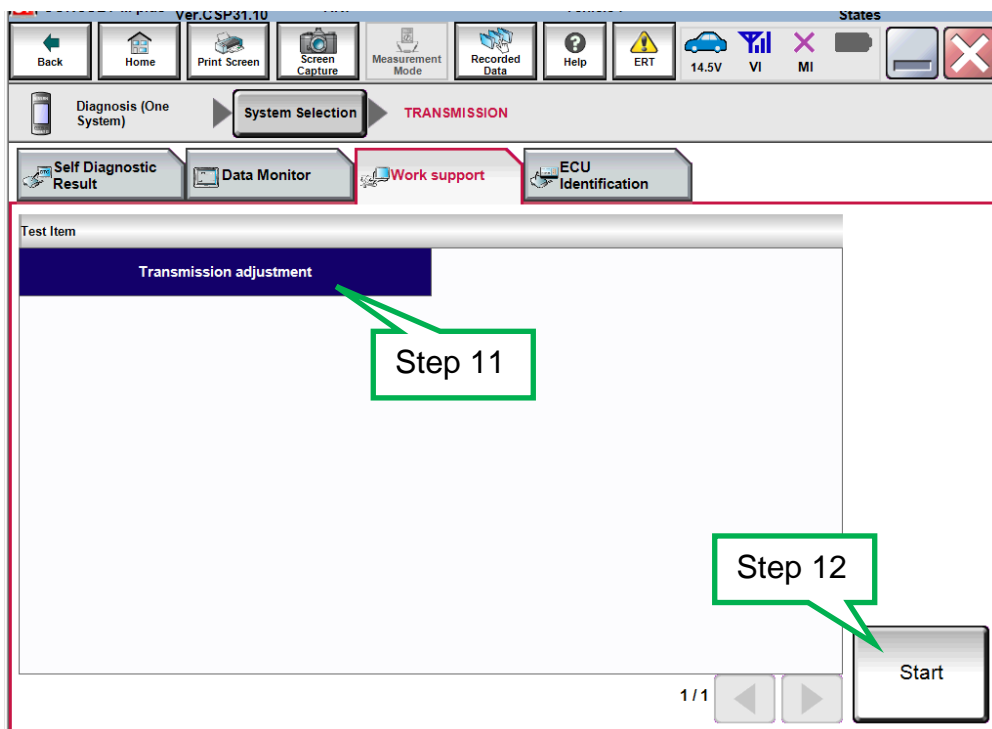

Figure 2
10. Navigate C-III plus to Transmission > Work support (see Figure 2).